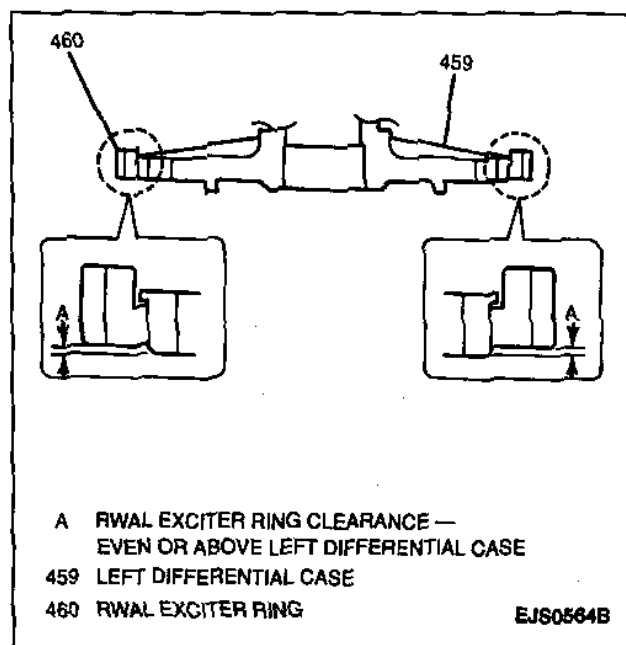

Figure 56—Speed Sensor Exciter Ring Position on Left Differential Case
- Left differential case face to make sure the speed sensor exciter ring is flush with or higher than the left differential case (Figure 56).